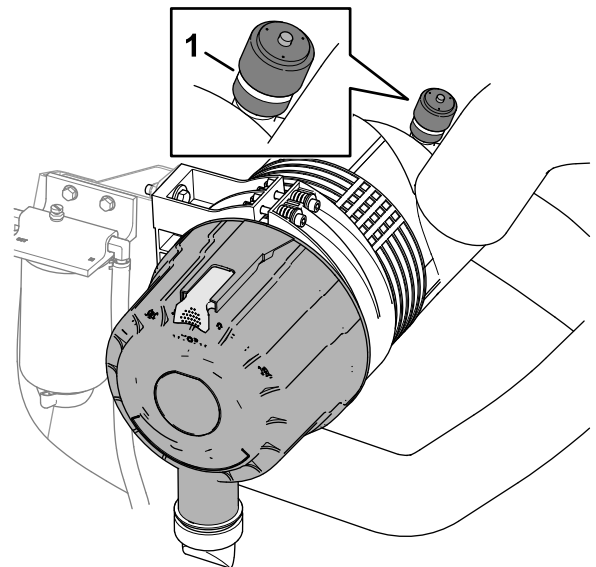

Figure 61
3. Check the service indicator at the end of the air filter housing (Figure 61).